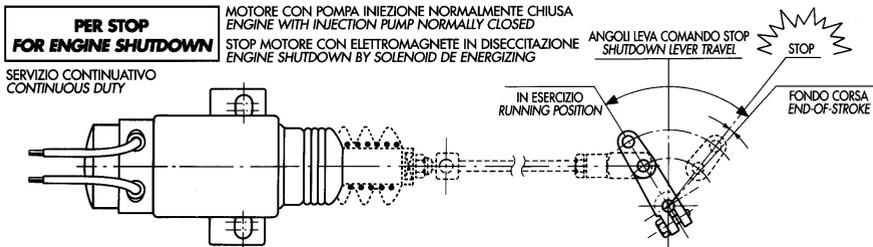

FIG.2
**To shut up the engine in the ETR mode (Fig.2), when the pump lever is in the “stop” position with engine out, one can use only dual-coil electromagnets Elettrostart (E-ES) by applying one of the three systems described at the previous paragraph “General information - Families and versions of the Elettrostart electromagnet ”:**